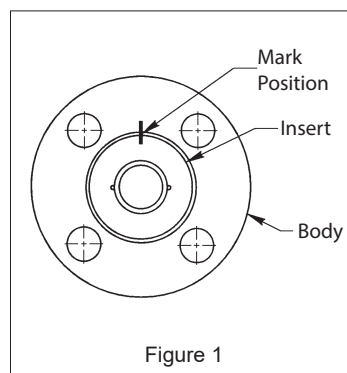

Figure 1
8. Place compression Plate (9) over studs (14). Place a stop bushing (37) and a bonnet stud nut (18) on each bonnet stud and tighten nuts alternately so that the compression plate (9) remains parallel with the body bonnet. Tighten down the nuts until the packing/v-ring set is fully seated, then tighten the nuts an additional 1/4 turn.
9. Screw the insert (2) into the body until it is fully seated, and then mark its position as shown in (Figure 1). Counting the number of turns, remove the insert.